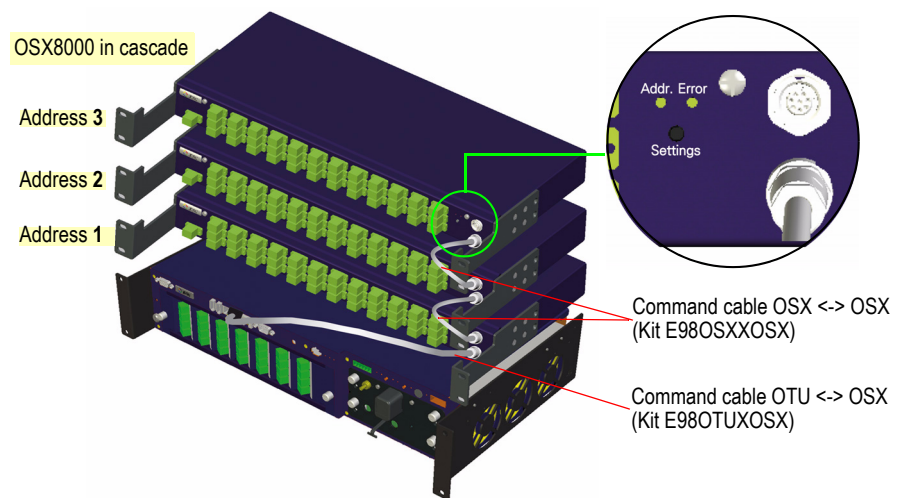

Fig. 60 Connection OTU-8000 <-> OSX8000 <-> OSX8000
- 2 Connect all the others OSX8000 (see Figure 60 on page 50).